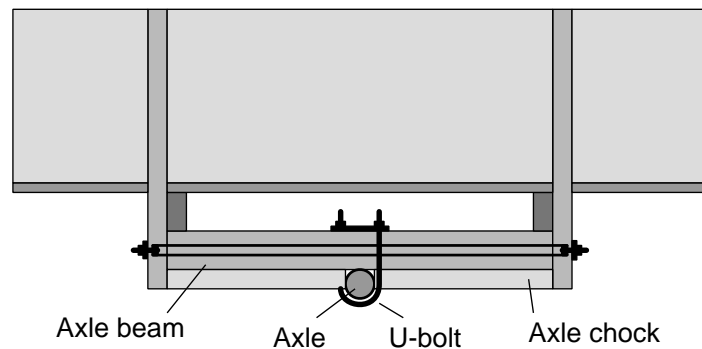

Figure 9: chocking axle to axle beam.
- 7) Nearly there! Fix the axle with more U-bolts around the axle and the axle beams as shown in Figure 9. If you are using a scrap vehicle axle you may need to weld extra pieces of steel to it to make it fit properly to the cart axle beams. Whichever axle you use you will find it stronger to nail pieces of wood to the bottom of the axle beams to stop the axle sliding along it.